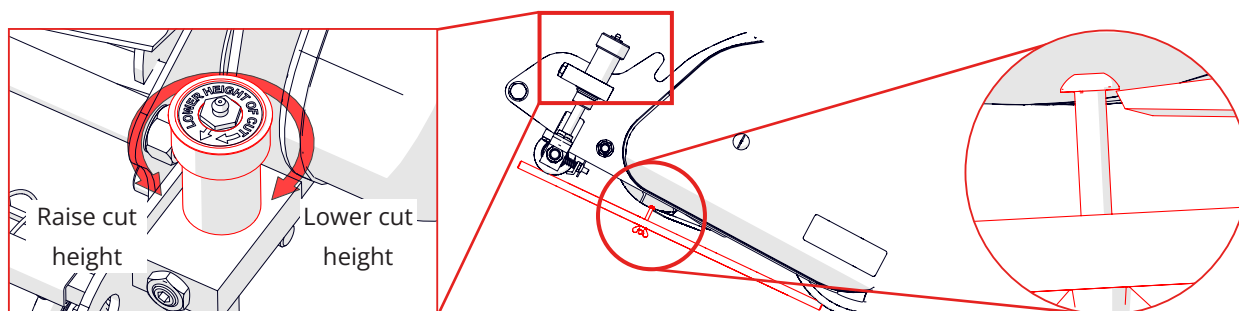

Fig. 9E - Rotate the cut height adjuster while offering up the setting bar. Stop when the head rests level/within the shear blade
7. Repeat step 6 for the second position on the other side of the cassette (Fig.9E).